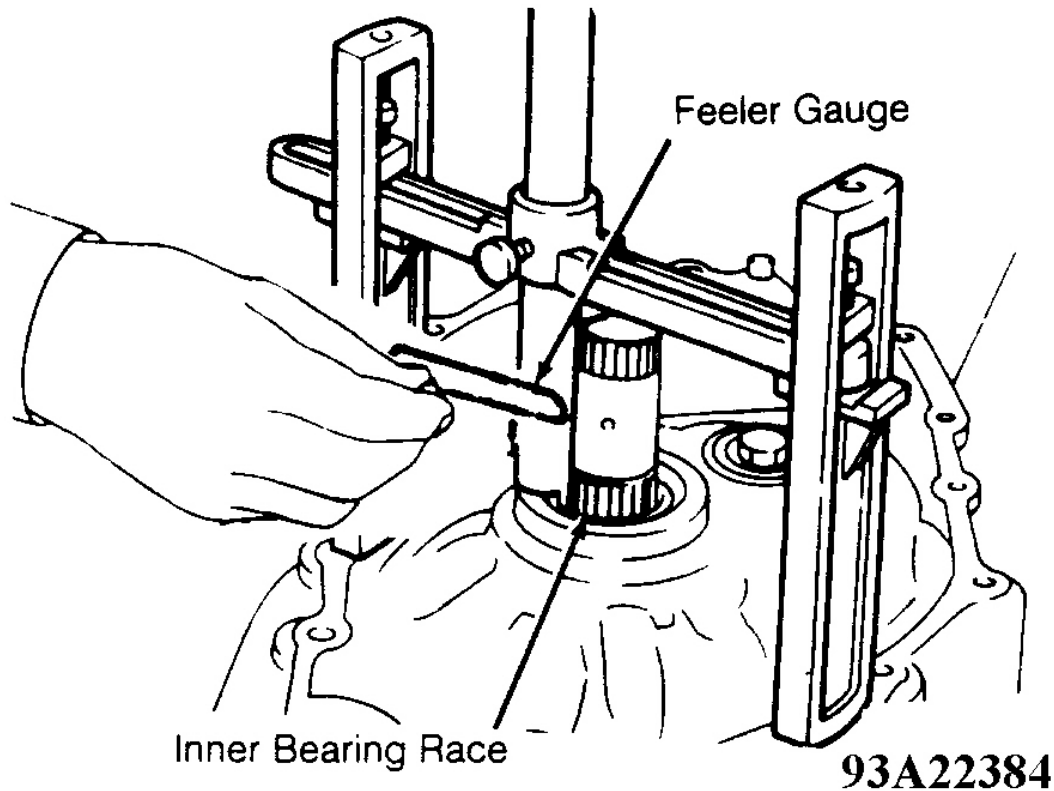

Fig. 24: Measuring Inner Bearing Race Height
2. Insert output shaft end play Gauging Plunger (J-34291-6) into gauging cylinder. Tighten plunger set screw. Remove output shaft end play adjusting shim at end of output shaft. Place bridge, gauging cylinder and gauging plunger onto machined surface of converter housing. Loosen plunger thumb screw to allow plunger to set on inner bearing race of output shaft and tighten thumb screw. See **Fig. 24**. Use feeler gauge to measure gap between gauging cylinder and shoulder of gauging plunger. End play should be .010-.022 in. (.25-.55 mm)). If not correct, 8 shims are available in sizes of .012-.067 in. (.30-1.70 mm) in .008 (.20 mm) increments.